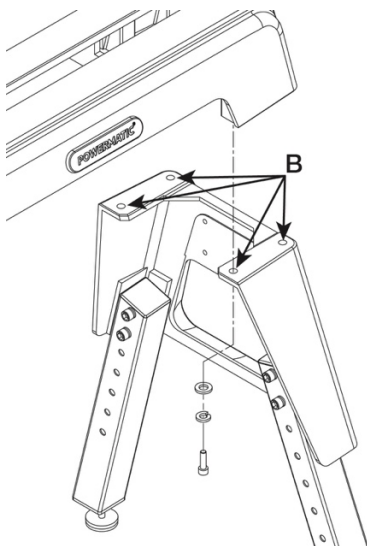

Figure 6-6
4. The top of each stand base section has four mounting holes (B, Figure 6-6). Align mounting holes with mounting holes on lathe bed. Load each 5/16” mounting bolt with a lock washer and flat washer. Insert mounting bolts through the stand base mounting holes and into the threaded lathe bed mounting holes. Tighten each mounting bolt firmly.